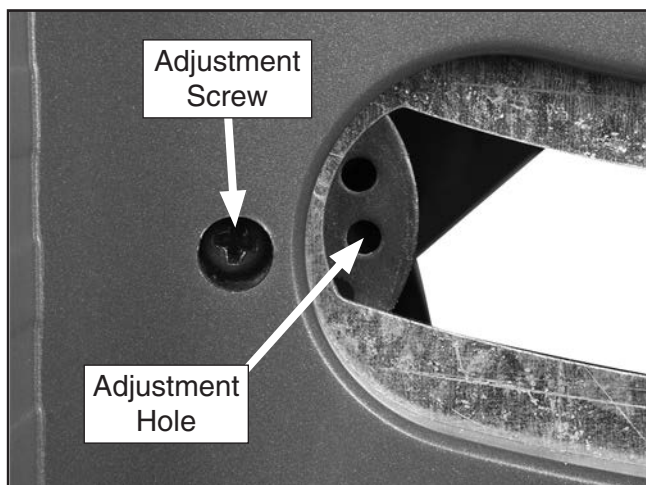

Figure 82. Location of 90° cam adjustment screw and adjustment holes.
5. Loosen stop cam adjustment screw (see **Figure 82**) just enough so cam can be rotated without it slipping out of position.
6. Insert tip of Phillips head screwdriver into a cam adjustment hole (see **Figure 82**) and move cam slightly up or down as necessary to adjust where blade tilt will stop.